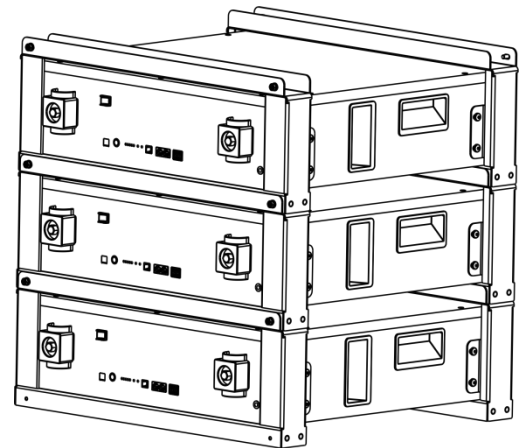

Figure3-6
5. Stack the required number of battery and bracket combinations as described above, and fix the screws. Shown as Figure3-6.